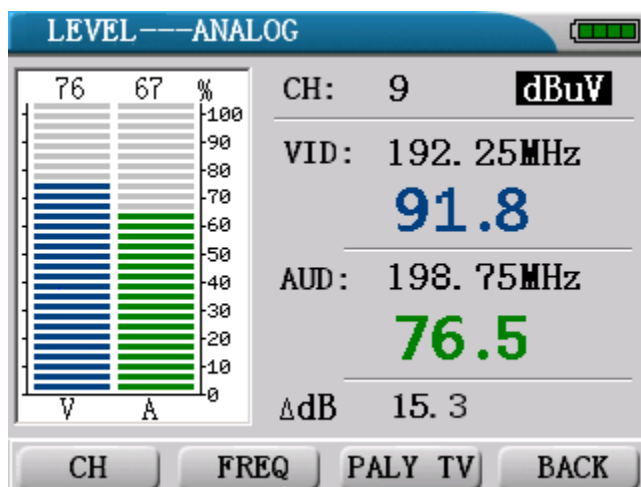

Fig 2-5
When channel table is set to analogue channels, under main menu press number key ①, then enter the function of channel measurement. (as shown in fig 2-5)